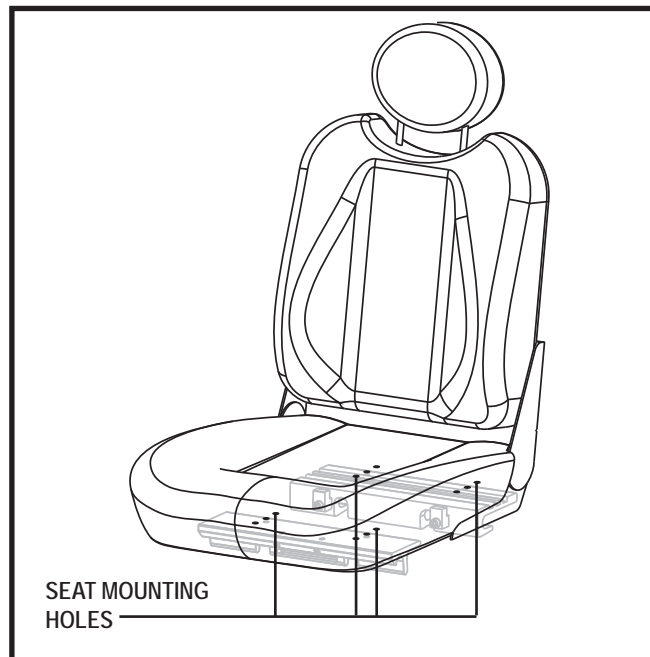

Figure 13. Seat Position Adjustment
7. Reposition the extrusions on a different set of mounting holes. You must move both extrusions the same number of holes either forward or rearward. **See figure 13.**